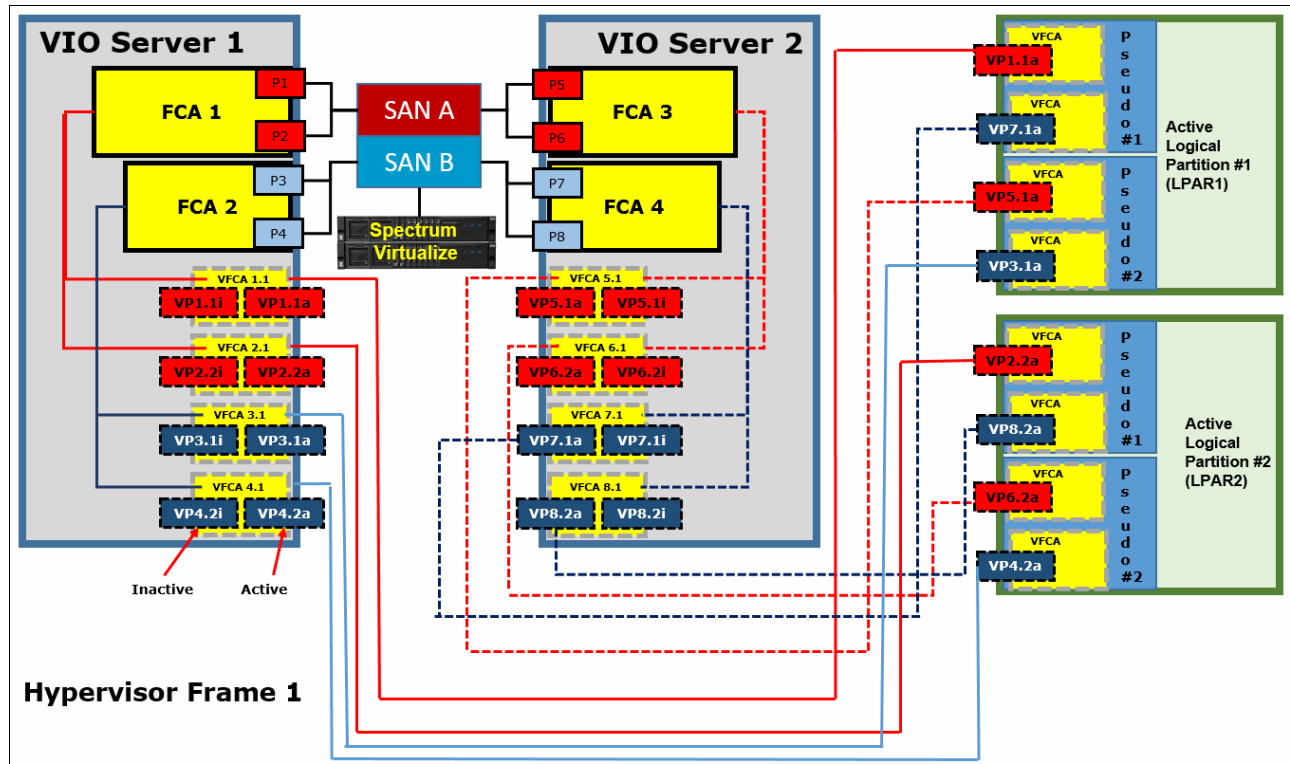

Figure 1-26 LPARs SAN connections
- ▶ Create a pseudo host in Spectrum Virtualize/Storage host definitions containing only two virtual WWPNs, one from each fabric as shown in Figure 1-26.
Figure 1-26 shows a correct SAN connection and zoning for LPARs: